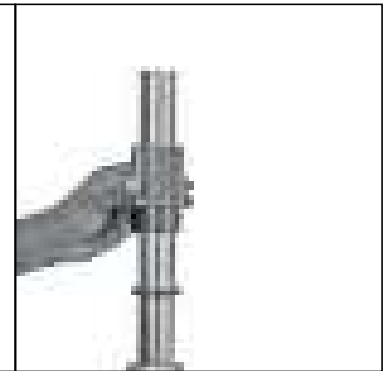

Fig. 1.12B
- Used to assemble the front fork oil seal and dust cap. (Fig. 1.12B)